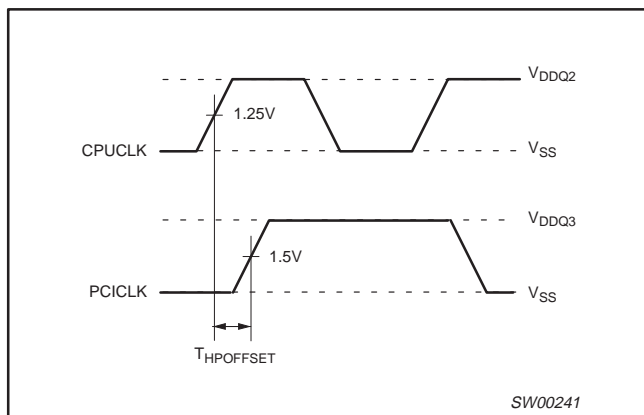

Figure 2. CPUCLK to PCICLK offset
- The CPUCLK must always lead the PCICLK as shown in Figure 2.